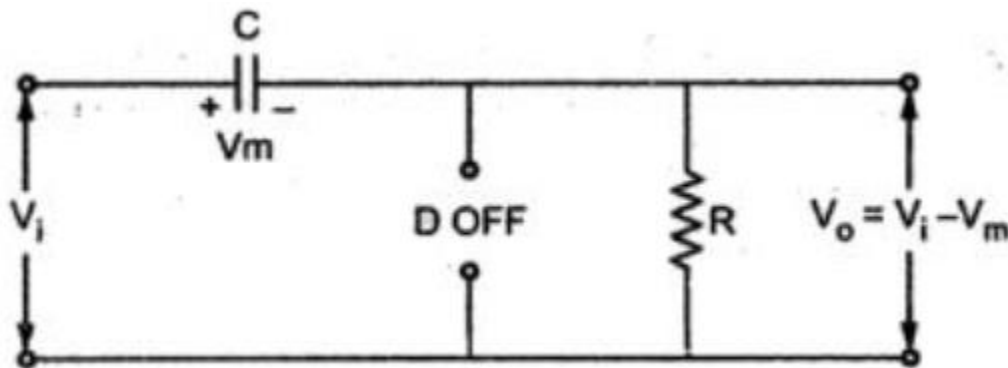

Fig.2.25 Operation of Negative clamper during negative half cycle
- Due to large RC time constant the capacitor holds its entire charge and capacitor voltage remains as $V_c = V_m$ as shown in the Fig. 2.25.